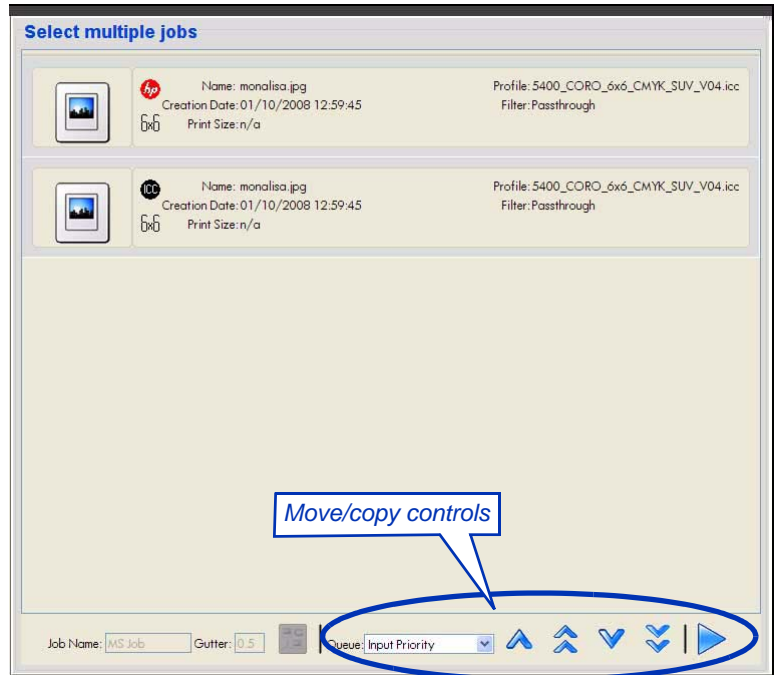

Fig. 2-1. Moving or copying multiple jobs
- In the tree pane, select multiple jobs with the mouse using your operating system's methods. The jobs will appear in the detail pane as shown in Fig. 2-1. Then select the destination queue from the